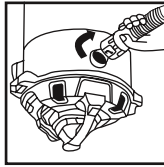

Fig. 2
2. Disconnect the hose from the unit (Fig. 2)